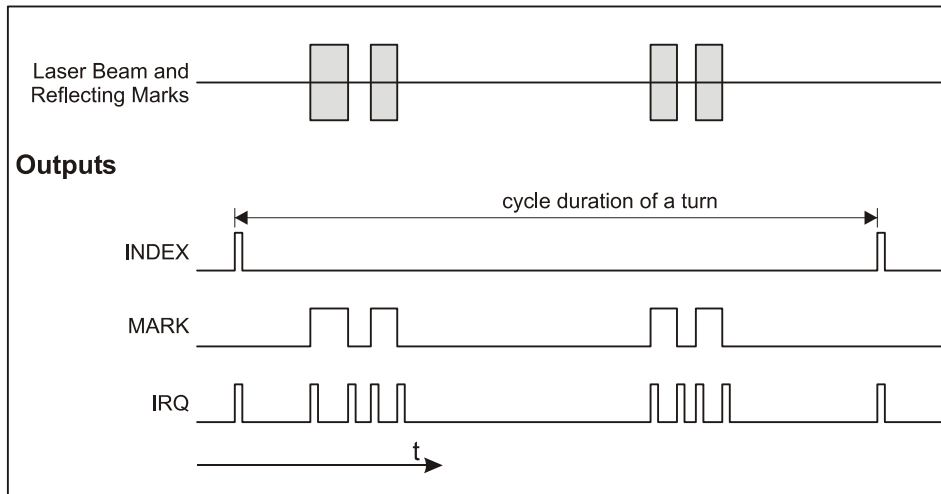

Figure 9 Time diagram 1: Logical levels of the output signals INDEX, MARKE, NULL and IRQ for two groups of reflecting marks during one full turn (over the time)
- INDEX Pulse of a duration of 5 μs , which is emitted once per revolution (also refer to Figure 9 on page 11).